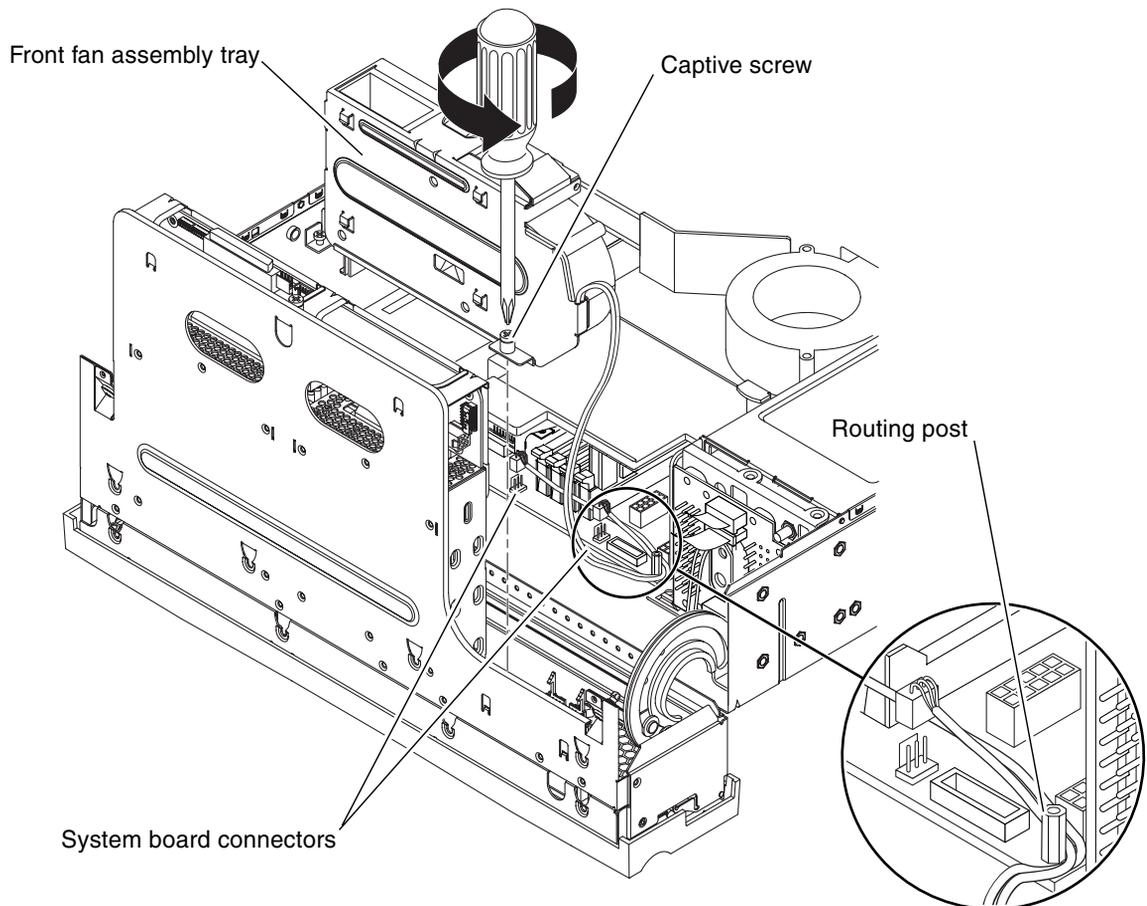

FIGURE 4-2 Removing the Front Fan Assembly Tray
5. Detach the two front fan assembly cables from the system board connectors (FIGURE 4-2).
6. Using a No. 2 Phillips screwdriver, loosen the green captive screw that secures the front fan assembly tray to the rotating service module (FIGURE 4-2).
7. Lift the front fan assembly tray straight up and remove it from the server (FIGURE 4-2).
1. Place the front fan assembly tray into position in the rotating service module (FIGURE 4-2).
2. Tighten the captive screw to secure the front fan assembly tray to the rotating service module (FIGURE 4-2).
3. **Connect the two cables to the system board and route it behind the post** (FIGURE 4-2).